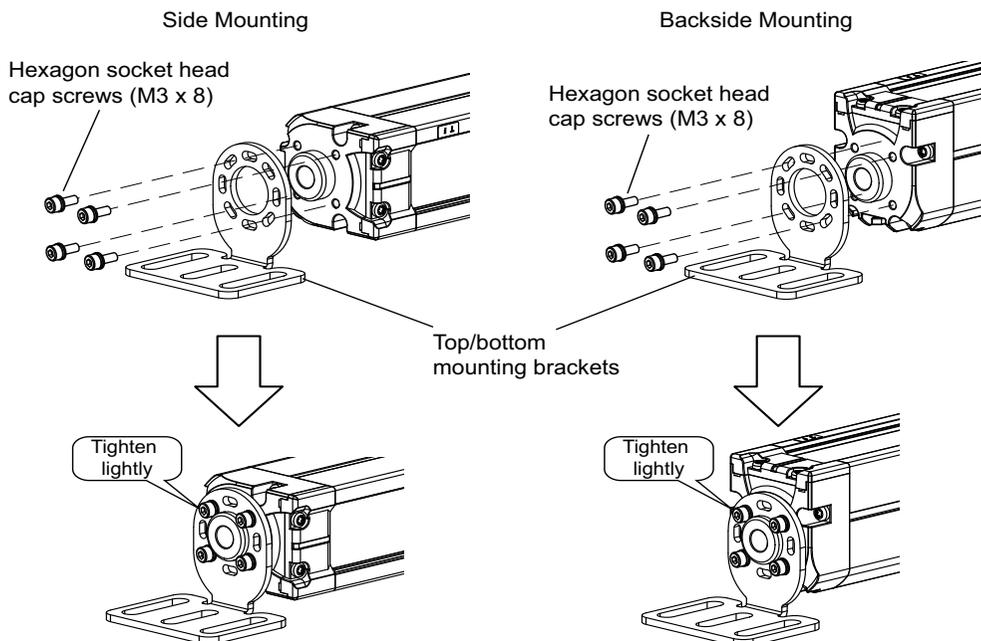

Figure 1
1. Attach top/bottom mounting brackets and fasten them lightly using the included hexagon socket head cap screws (M3x8). (Figure 1)